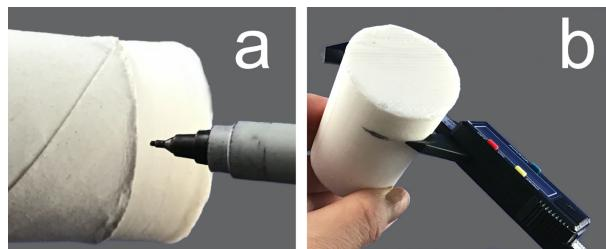

Figure 9.4 – Taking measurements of the paper tube using the measurement tool
4. Once printed, insert the measurement tool into the paper tube and make a mark on the measurement tool right where it meets the paper tube (see *Figure 9.4 a*).
5. Using the digital caliper, take a measure where the marking is made. This will be the value we use to create our motor mount (see *Figure 9.4 b*):